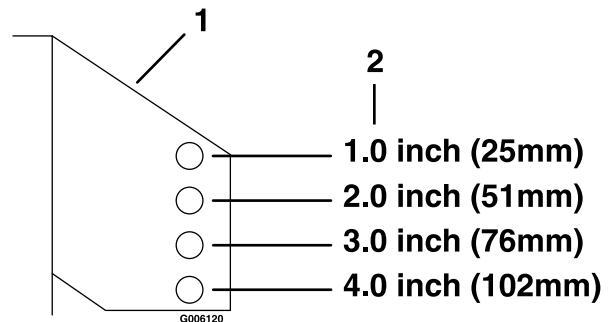

Figure 11
6. Place the rollers in one of the positions shown (Figure 11). Rollers will maintain 3/4 inch (19 mm) clearance to the ground to minimize gouging and roller wear or damage.